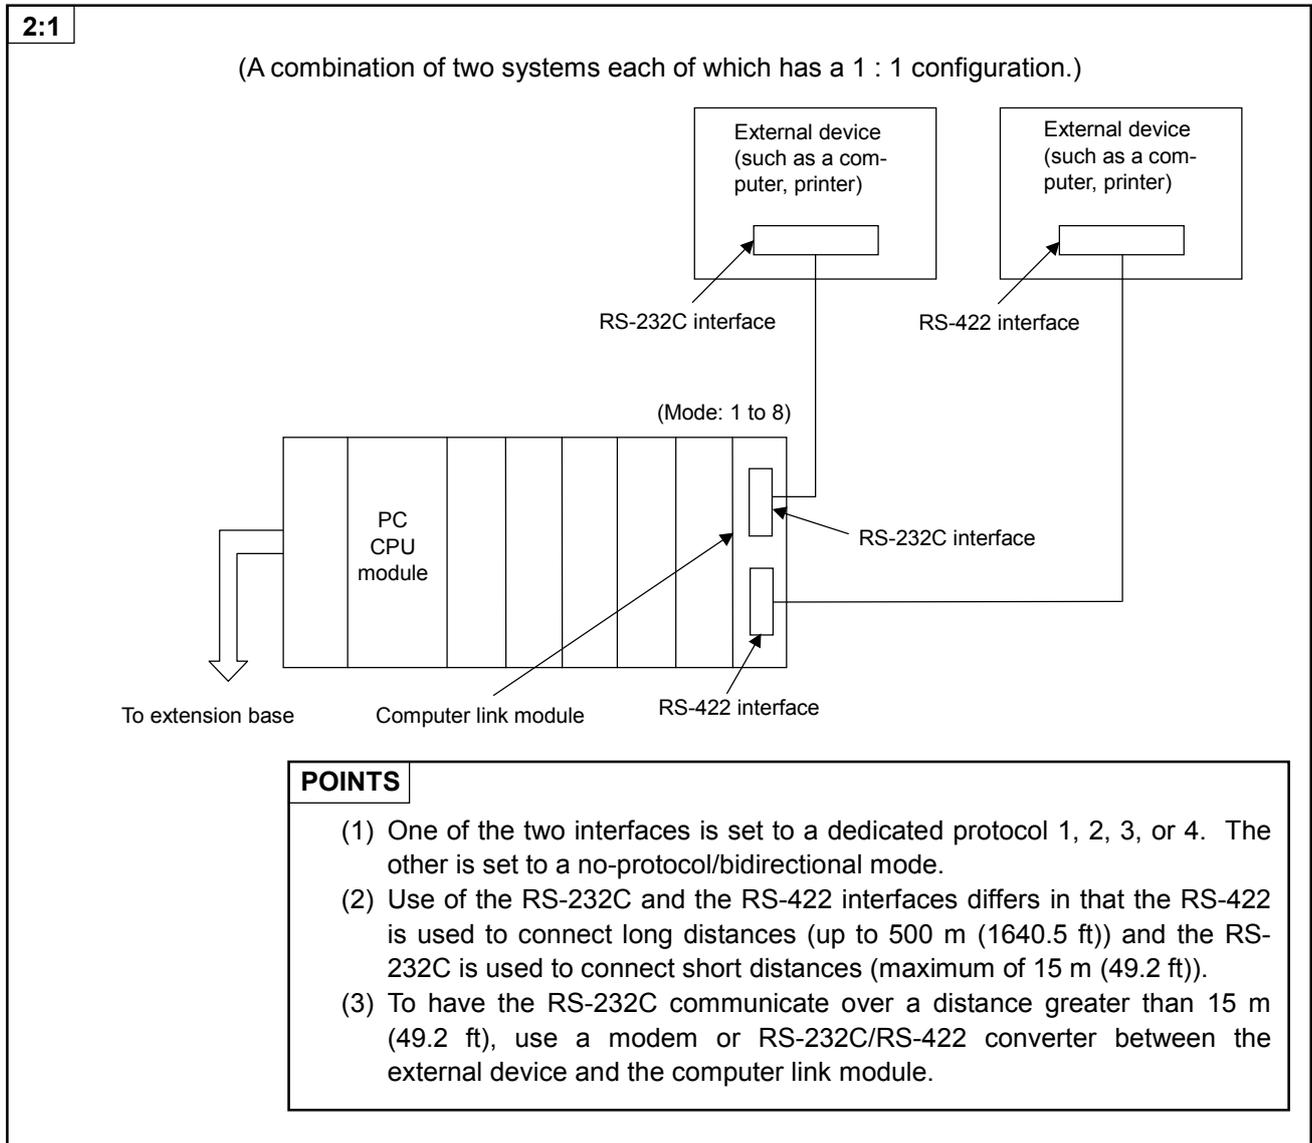

Fig. 2.3 System Configurations (III)
- (1) The system configuration for a 2 : 1 ratio of external devices to a PC CPU is shown in Fig. 2.3 below.